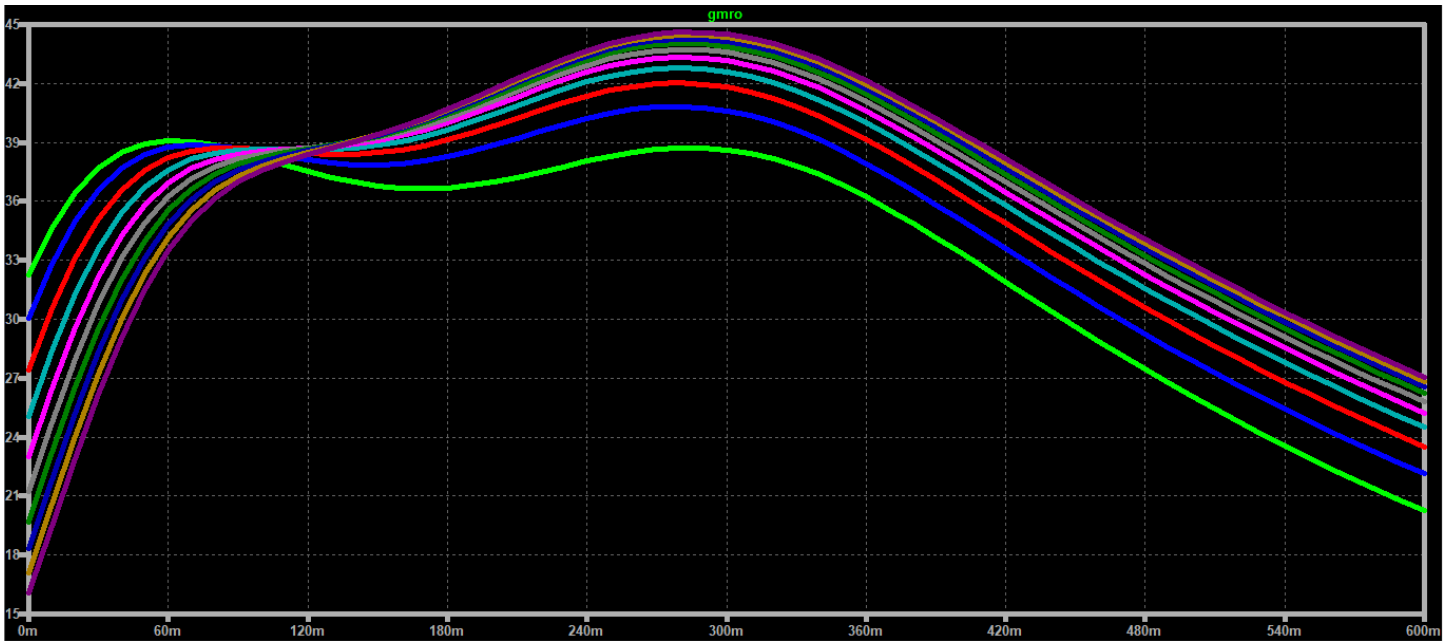

Figure 2.11 $g_m r_o$ sweep with parametrizing L
- Go ahead and run the simulation then plot $g_m r_o$ from the SPICE error log. You should get Figure 2.11.